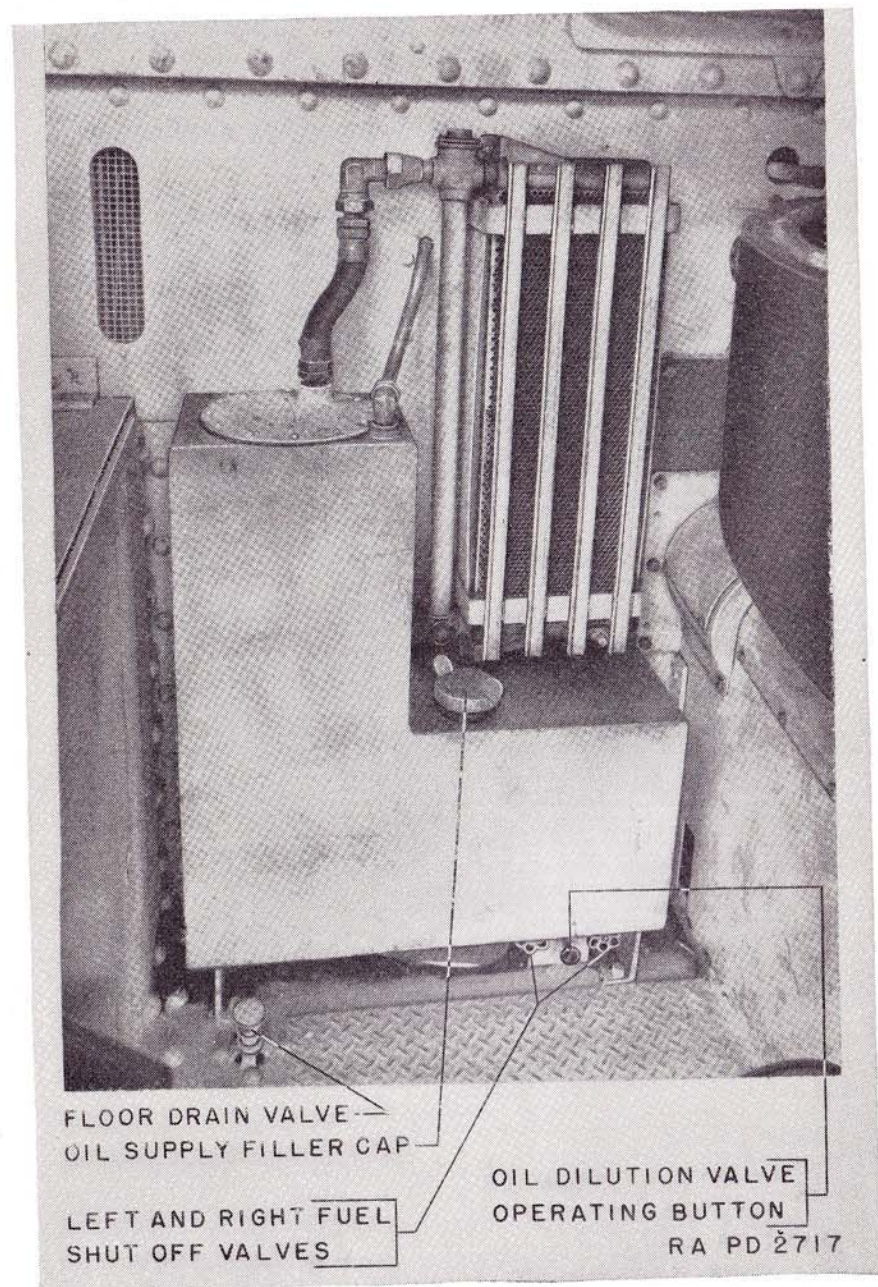

FIGURE 11.—Oil tank and cooler.
- d. The oil tank (fig. 11) is filled through the filler hole on the tank. The cap for this hole is fitted with a bayonet gage which indicates
valve operating button, which is located under the engine oil tank (fig. 11). The button opens the gasoline valve and allows gasoline to mix with the oil. The period of time to hold the valve open will depend on the temperature. To determine the period of time to hold the valve open, estimate the lowest temperature anticipated at the next engine starting. Find this temperature in the table given